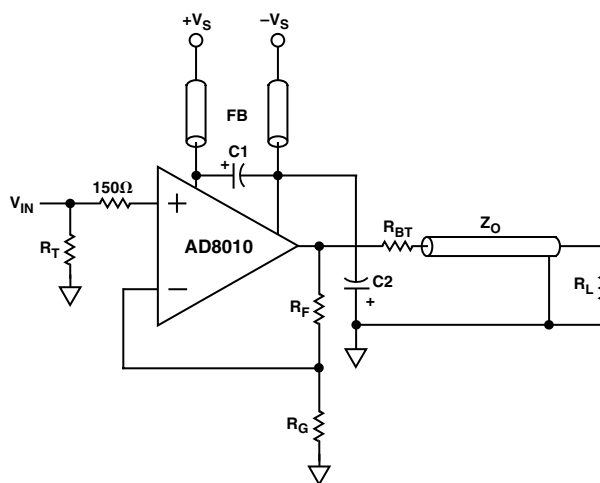

Figure 29. Standard Noninverting Closed-Loop Configuration with Recommended Bypassing Technique
To achieve these levels of performance special precautions with respect to supply bypassing are recommended (Figure 29). This configuration minimizes the contribution from high frequency supply rejection to differential gain and phase errors as well as reducing distortion due to harmonic energy in the power supplies.
The standard noninverting closed-loop configuration with the recommended power supply bypassing technique is shown in Figure 29. Ferrite beads (Amidon Associates, Torrance CA, Part Number 43101) are used to suppress high frequency power supply energy on the DUT supply lines at the DUT. C1 and C2 each represent the parallel combination of a $47\ \mu\text{F}$ (16 V) tantalum electrolytic capacitor, a $10\ \mu\text{F}$ (10 V) tantalum electrolytic capacitor and a $0.1\ \mu\text{F}$ ceramic chip capacitor. Connect C1 from the $+V_S$ pin to the $-V_S$ pin. Connect C2 from the $-V_S$ pin to signal ground.
NOTE: Please see Figure 29 for Recommended Bypassing Technique.
3. Bypassing per Figure 29.